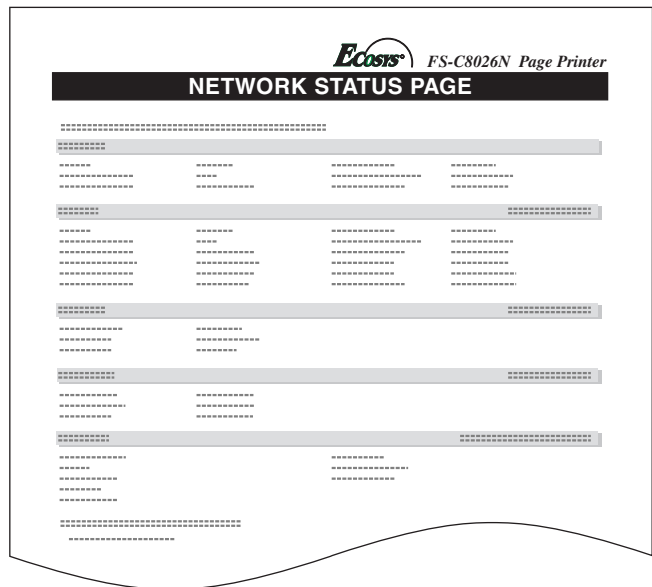

Figure 3-9
Sample network status pages are shown on Figure 3-9 on page 3-31.
- 9 Press the **MENU** key. The display returns to Ready. The printer prints network status pages as an example shown in Figure 3-9 below.